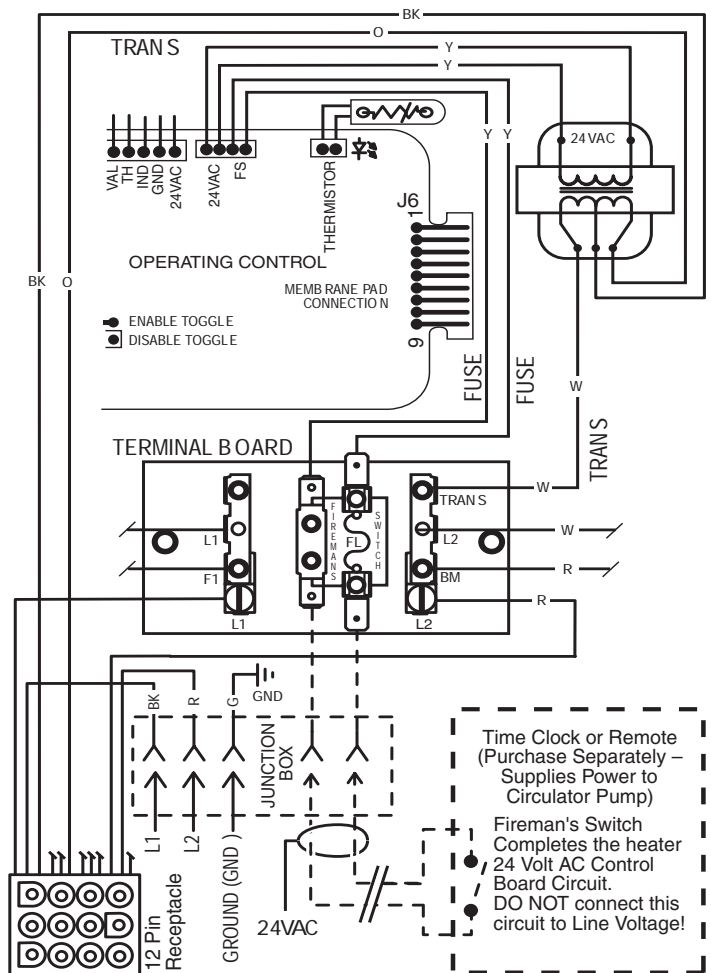

FIGURE 23: Fireman's Switch Connections
4. Remove the factory-installed jumper between the Fireman's Switch terminals (see Figure 23).